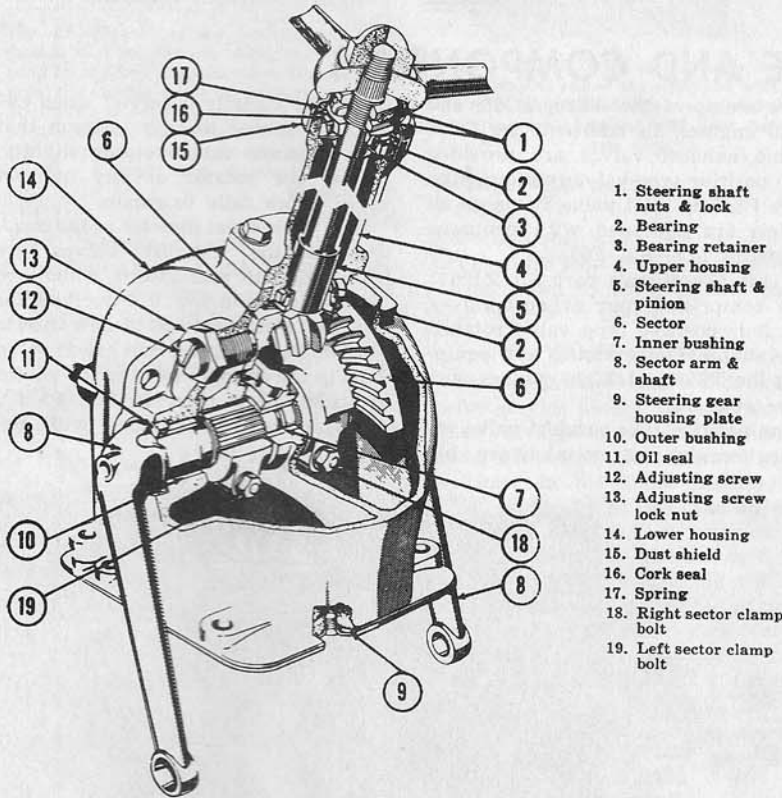

Fig. F2—Models TO20 and TO30 steering gear assembly. TE20 is similar.
4. MINOR ADJUSTMENT. To reduce end play in column shaft (5—Fig. F2) of the pinion and twin sec-